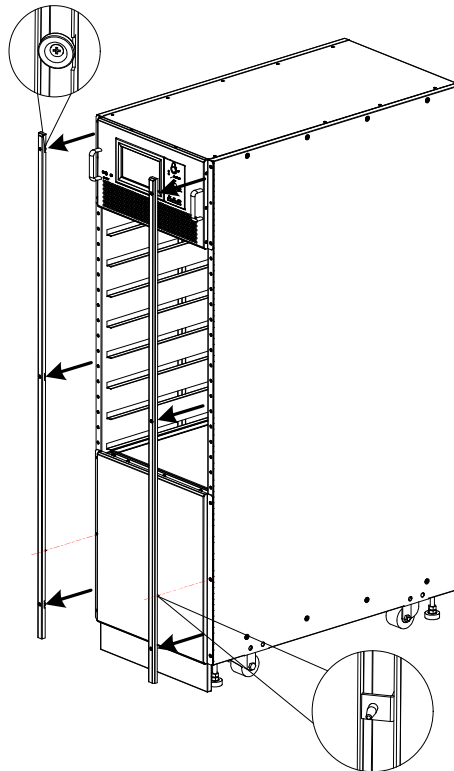

Figure 3-6 Remove cabinet trim strip
1. Remove cabinet trim strip, as Figure 3-6 shows :